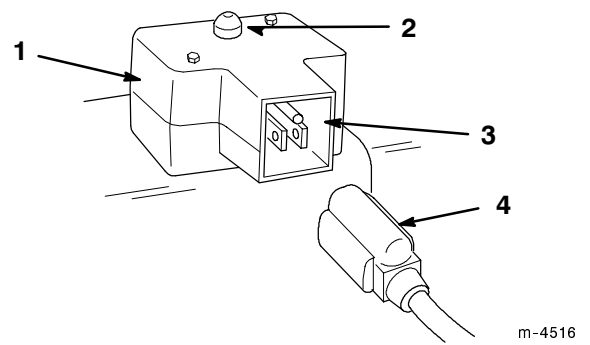

Figure 16
- **Electric Starter** (Model 38064 only; Fig. 16)—Push the starter button to start the engine.
- **Power Cord** (Model 38064 only; Fig. 16)—Connect to the electric starter and an electrical outlet when starting the engine.
- A. Connect the power cord to the snowthrower (Fig. 16) and to a standard household power outlet.